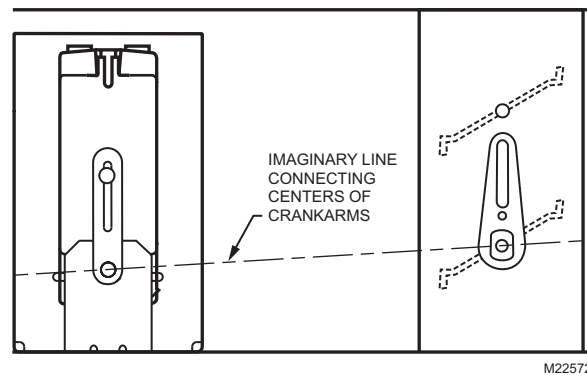

Fig. 8. Line connecting crankarm centers.
3. With the actuator mounted in place, create an imaginary line which connects the center of the damper crankarm and the center of the actuator crankarm. (See Fig. 8.)